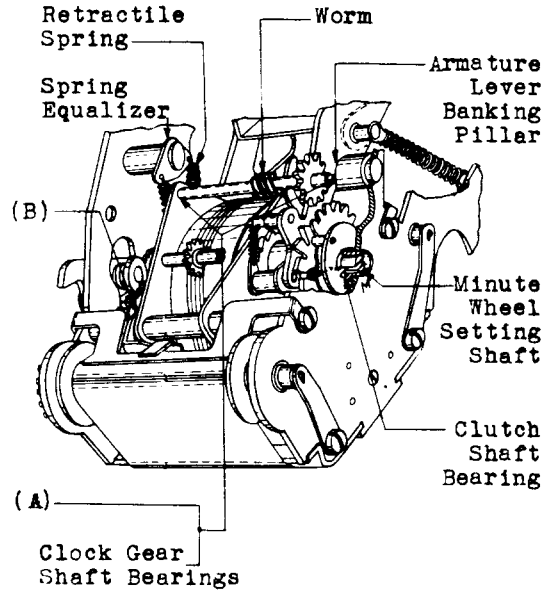

Fig. 3
Stamping Mechanism and Clock Gear Shaft Bearings - Fig. 3 (A)
Lift Lever Bearings - Fig. 3 (B)